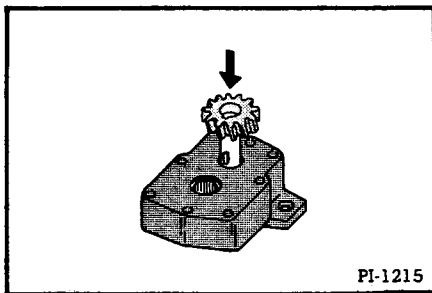

Fig. 140 Installing Drive Gear
5. Place a key in the drive shaft and lower the drive gear over it (Figure 140) making sure the key enters the gear properly.